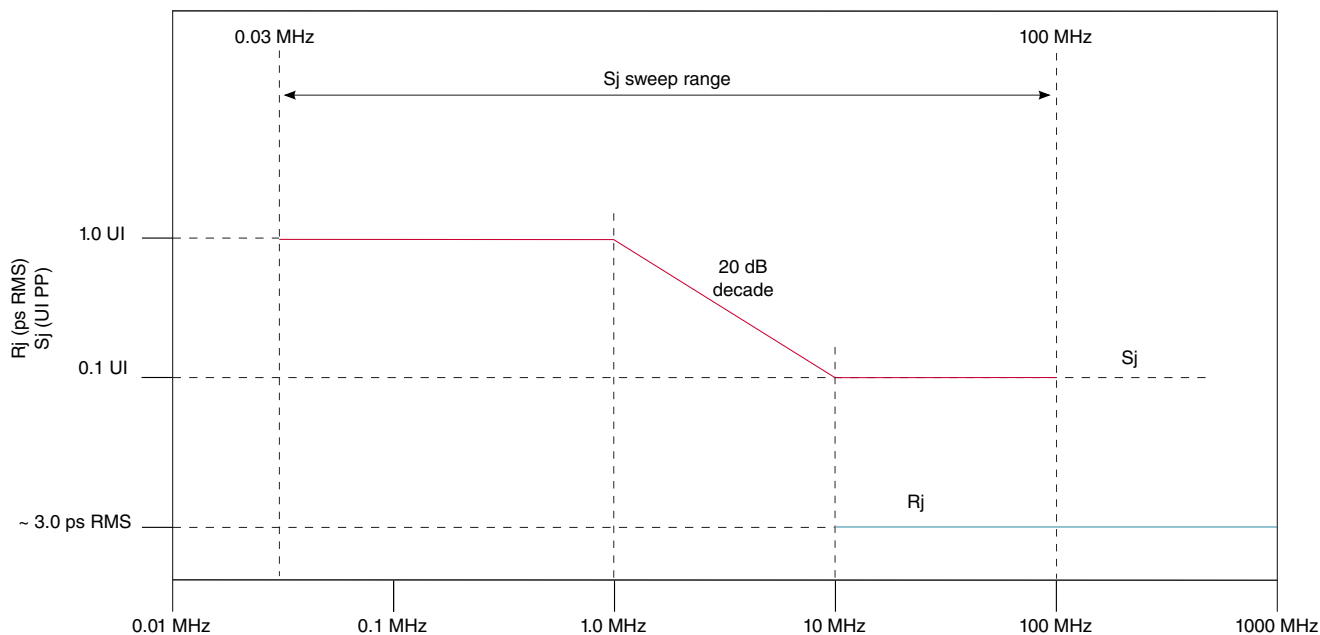

Figure 40. Swept sinusoidal jitter mask
3. The sinusoidal jitter in the total jitter tolerance may have any amplitude and frequency as shown in Figure 40 .
4. Random jitter (Rj) is applied over the following range: The low frequency limit may be between 1.5 and 10 MHz, and the upper limit is 1.0 GHz. See Figure 40 for details. Rj may be adjusted to meet the 0.3 UI value for $T_{RX-SV-8G}$.